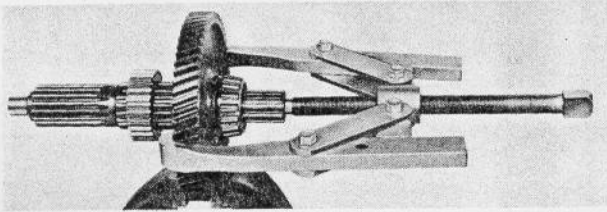

Fig. 19
- e. Pull the first gear (C-Figure 17), thrust washer (B-Figure 17), and the rear bearing (A-Figure 17) as a unit. See Figure 19.